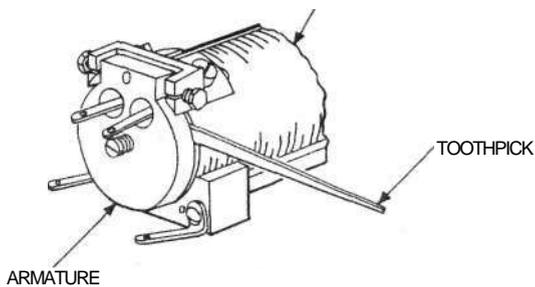

Fig. 13—Blocking 44-Type Relays - Nonoperated
(2) To block relays nonoperated, deflect the legs of the KS-19914 wedge toward each other and insert them between the armature and the core with the beveled edges toward the core.
**3.10 44-Type Relays and 22-, 35-, and 56-Type Drops:** Fig. 13—Block this apparatus nonoperated by inserting a toothpick between the armature and the frame or shell.